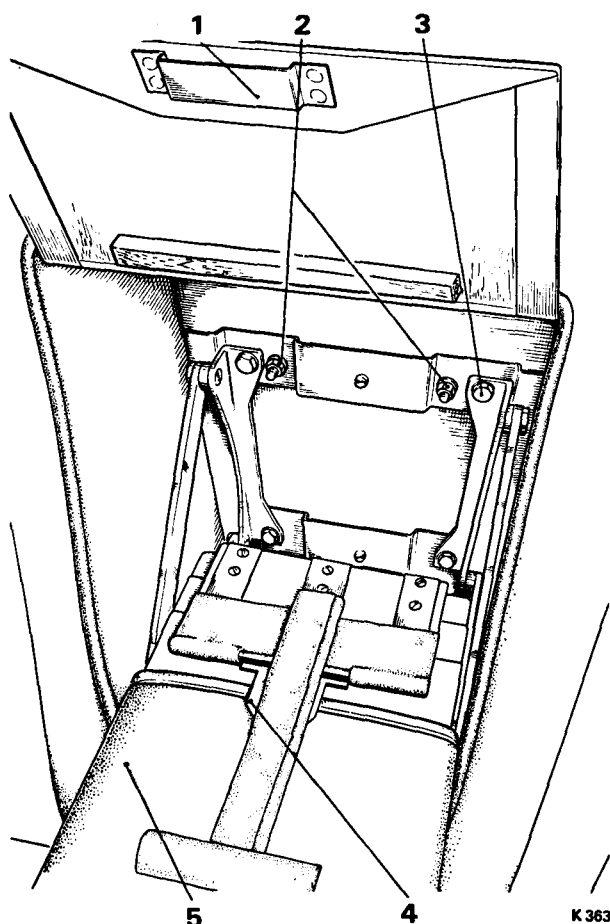

FIG. S34 CENTRE REAR ARMREST (4-Door Saloon and Long Wheelbase Non-division Cars)
4.(a) **4-Door Saloon and Long Wheelbase non-division cars.** Remove the carpet from the front wall of the luggage compartment to expose the heads of the two bolts shown in Figure S34, item 2; remove the two bolts, nuts and washers.